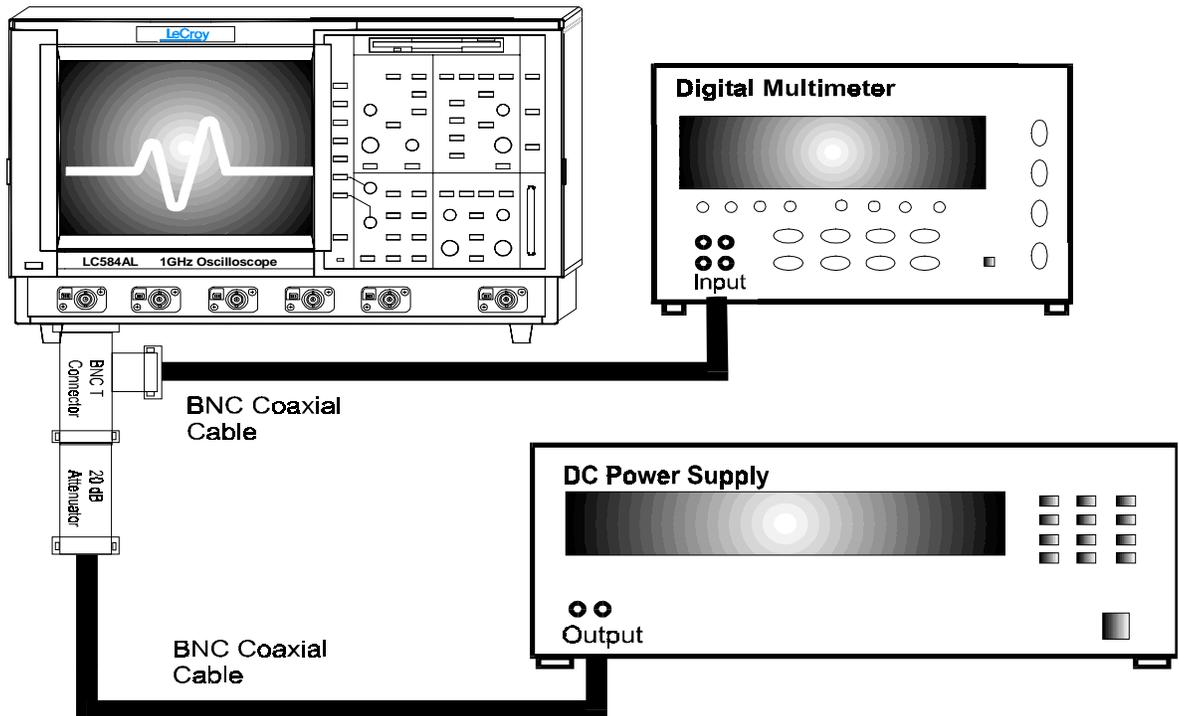

Figure 5-2 : DC 50Ω Accuracy Equipment Setup for 50 and 100 mV/div
- For the sensitivities : 50 mV and 100 mV/div, connect the test equipment as shown in Figure 5-2.